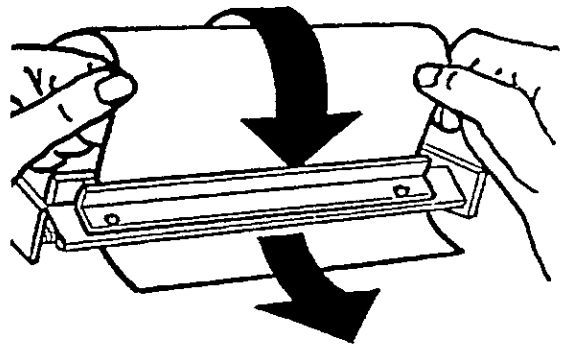

Figure 5
9. To feed paper through the cutter, insert into slot between BLUE colored plates (figure 5). If orange cutter wheel is not aligned paper might not flow through properly.